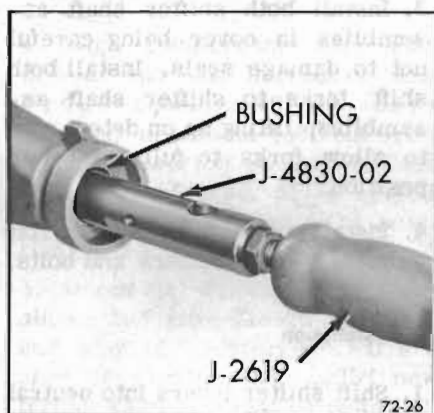

Figure 72-415—Removing Case Extension Bushing
2. Using J-2619 slide hammer and J-4830-02 puller, remove case extension bushing. See Figure 72-415.